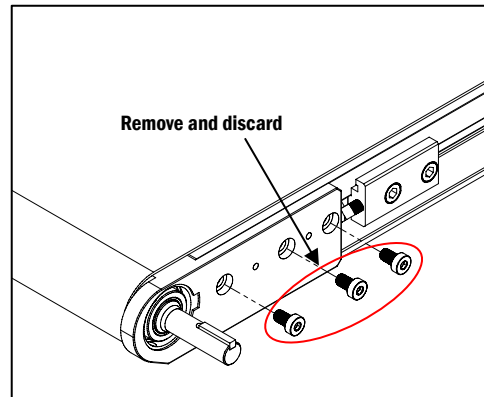

Figure 2
a. Remove and discard the three M6 Low Head Cap Screws with an Allen Wrench from the drive side Bearing Block (**Figure 2**).